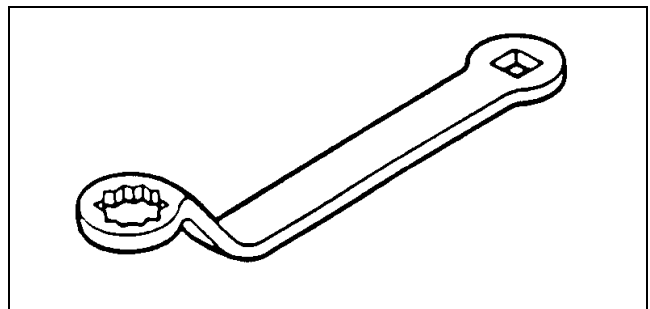

Figure 27
- TOR80117EZ Crankshaft Rotating Wrench (Fig. 27)